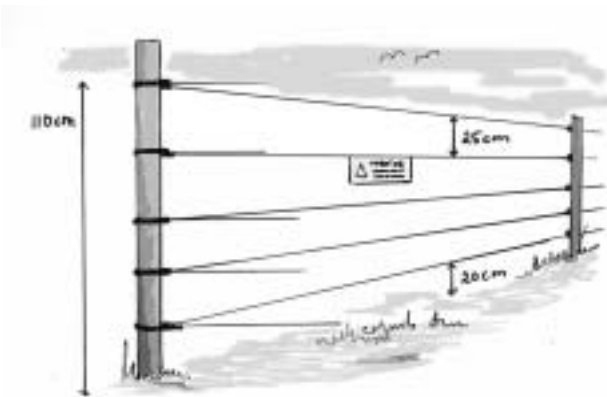

Fig. 2: Electric fence with five wires (wires on heights of 20, 40, 60, 85 and 110 cm above ground).
- an electric fence with five wires (wires on heights of 20, 40, 60, 85 and 110 cm (see figure 2)